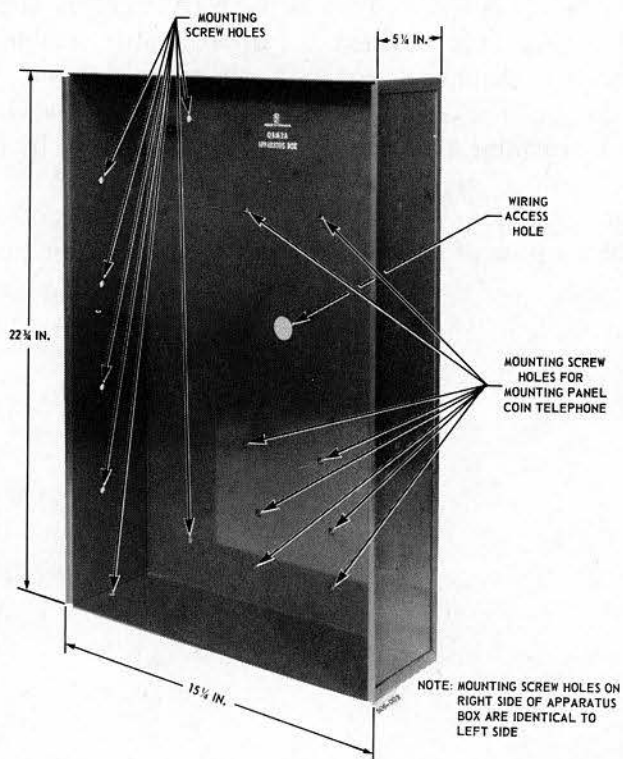

Fig. 3 — Apparatus Box QBM2A
- Recessed into a wall so that the front panel is flush with the surface of the wall. The Apparatus Box QBM2A (Fig. 3) is provided to fit into the wall prior to the installation of the coin telephone set. The customer will be responsible for providing the recess in the wall of the proper dimensions. Mounting screws are provided with the Apparatus Box for the purpose of fastening
the coin telephone set to the Apparatus Box. Dimensions and mounting screw holes for the Apparatus Box are shown in Fig. 3. See Table A for fasteners required.